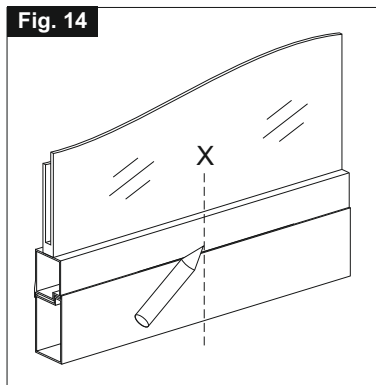

Fig. 15
- 3) **Fig. 15-** Align the quick coupling to the centre line using as reference the rib (**Ref. 1**) located in the centre of the same with the quick release side indicator on the right (**Ref. 2**);